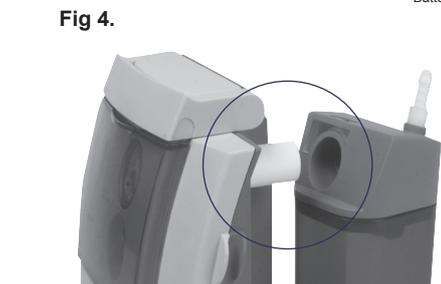

Fig 4.
The battery is charged by the 12 V low voltage connector (fig. 4). Chapter 9.3 contains a reference to the battery handling.
Connect the low voltage connector (fig 4, ①) to the low voltage socket at the device. Connect the mains plug of the battery charging power pack (fig 4, ②) to the wall socket.